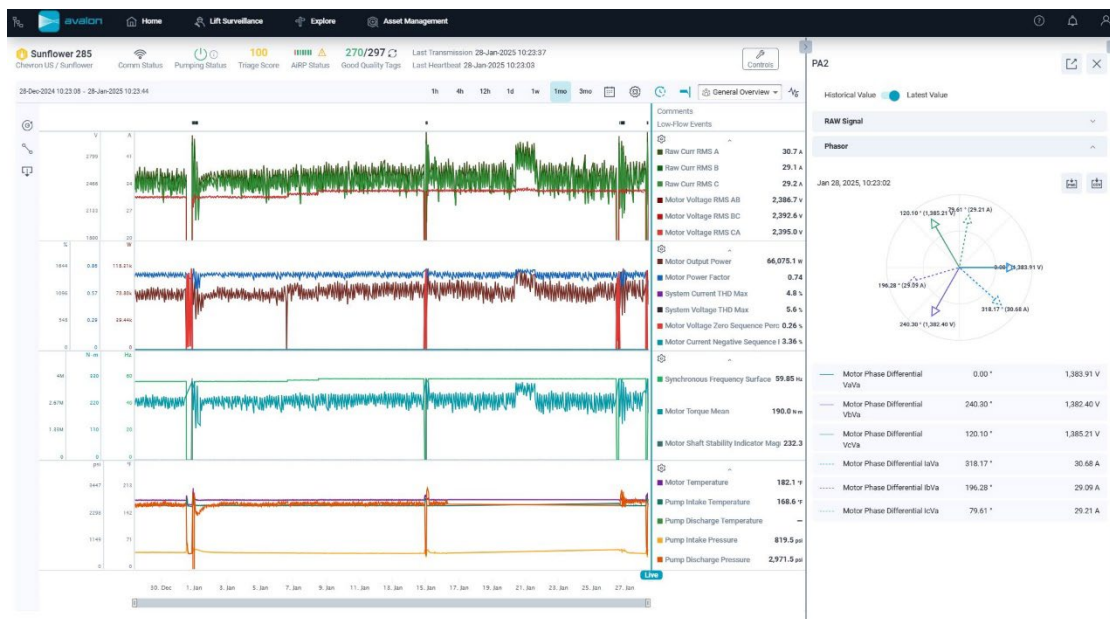

Figure 1.4—Data can be monitored remotely in Sensia’s Avalon displays and customizable trend charts
- in a cloud-based Avalon software environment (Figure 1.4, page 9)